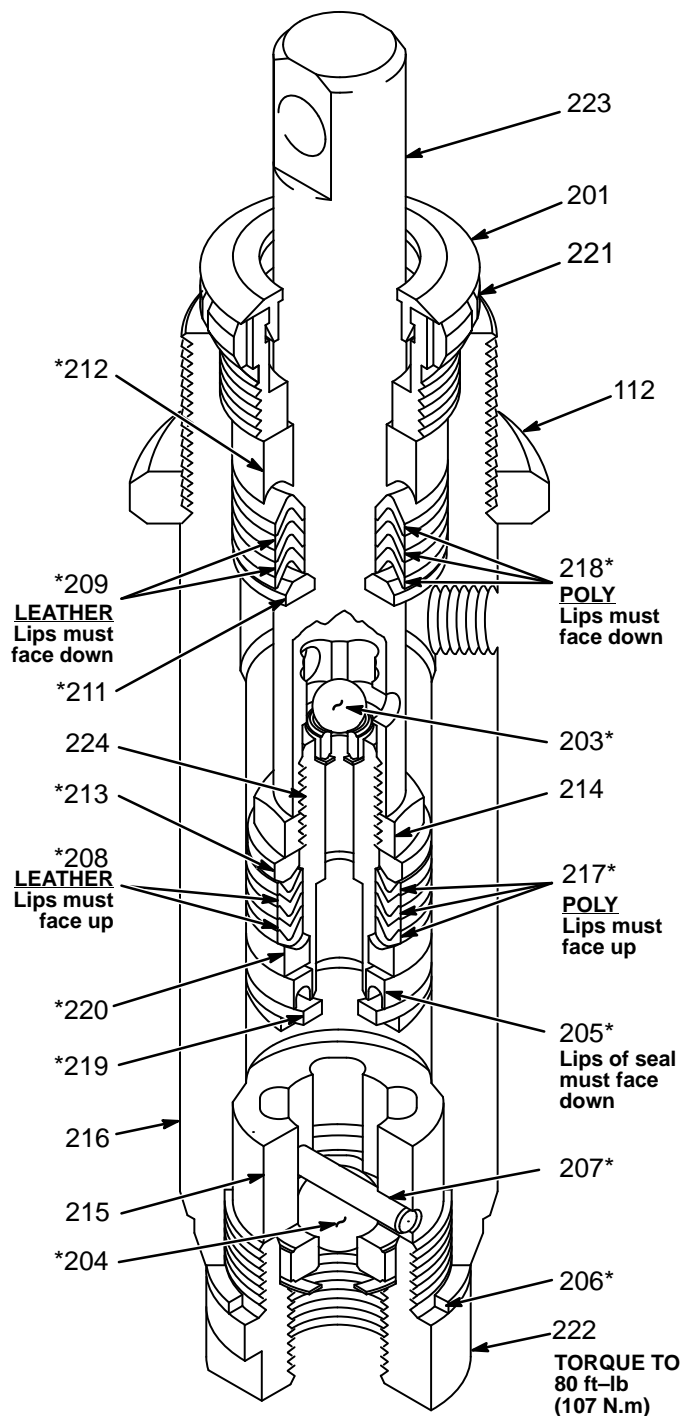

Fig 19-1
Disassembly. See Fig 19-1, except where noted.
- B. Clean all parts thoroughly. Check the outside of the piston rod (223) and the inside of the cylinder (216) for scoring or scratches, which prevent the packings from sealing properly. Replace all worn parts.
- C. Alternate polyethylene and leather packings as shown in Fig 19-1, starting with the polyethylene packings. Incorrect installation damages the packings and results in pump leakage. Notice that:
- the lips of the U-cup seal (205) face down.
1. Stack these parts one at a time onto the piston valve (224): backup washer (219*), U-cup seal (205*) *lips down*, and female gland (220*), alternate the polyethylene and leather v-packings (217*, 208*) *lips up*, and then the male gland (213*). See Fig 19-1.
5. Stack these parts one at a time into the top of the cylinder (216): male gland (211*), alternate the polyethylene and leather v-packings (218*, 209*) *lips down*, and then the female gland (212*). See Fig 19-1.
6. Loosely install the packing nut (221) and plug (201).
7. Insert the oiled piston rod (223) through the bottom of the cylinder.
8. Assemble the intake valve. Use a new gasket (206*). Screw the intake valve into the cylinder and tighten to 80 ft-lb (107 N.m). See Fig 19-1.
9. Screw down the cylinder locknut (112) until it is finger tight at the bottom of the external cylinder threads. See Fig 19-1.